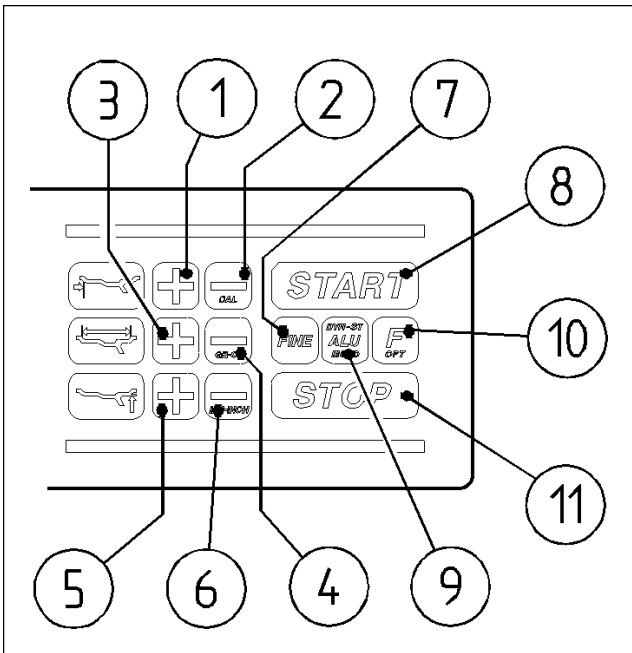
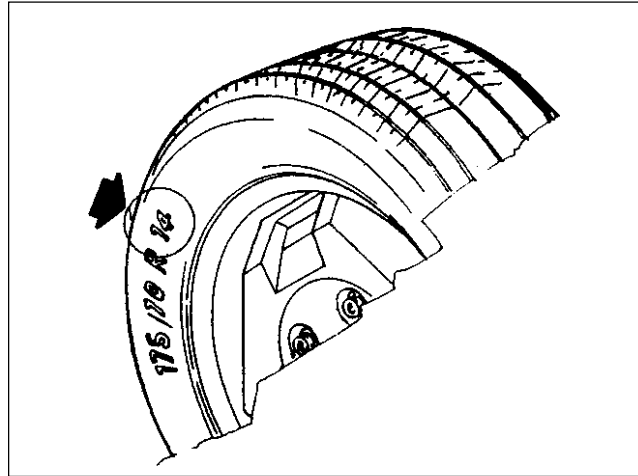

Fig.43
Fig.44
Press button #1 or #2 to raise or lower the offset number as required. (Fig. 43) to enter rim offset.
**C.** Rim diameter can be entered manually. Read the rim diameter, always marked on the sidewall of the tire (Fig.44). Press button #5 or #6 (Fig. 43) to raise or lower the offset number as required.
**E.** Enter rim width with the appropriate buttons (#3 and #4 Fig.43).
**F.** To enter all data with an increased resolution press the button 'FINE' first (#7 Fig.43). Press the button again to restore the standard accuracy.
Before spinning the wheel (although it may be done afterwards) choose the adequate balancing program. To select the different balancing programs press the button **ALU** (#9 Fig.43). The balancing programs available are :